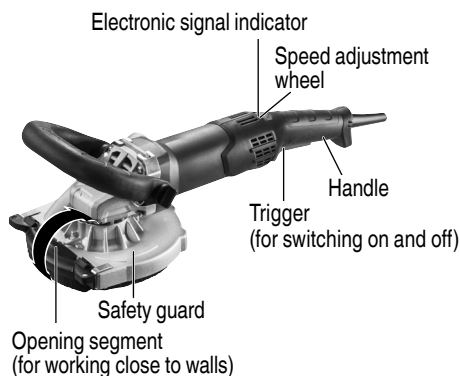

Fig. 4
1. Working close to walls (Fig. 4)
2. Setting the speed (Fig. 4)
Machines with VTC and TC electronics: (Fig.4)